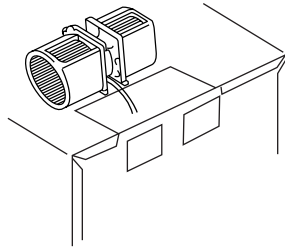

Fig. 1-3-1
- (3) Carefully lift the blower unit and put it on top of product. (Fig. 1-3-1)